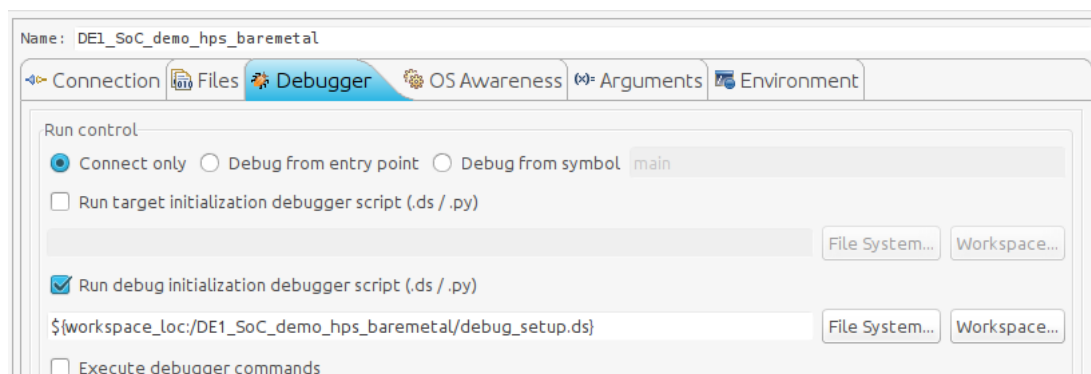

Figure 12-7. Debug Configuration “Debugger” Tab
- b. Enable the “Run **DEBUG** initialization debugger script (.ds / .py)” checkbox. Set the debug script to the one we defined for the project in 12.2.2. You should have something similar to Figure 12-7.